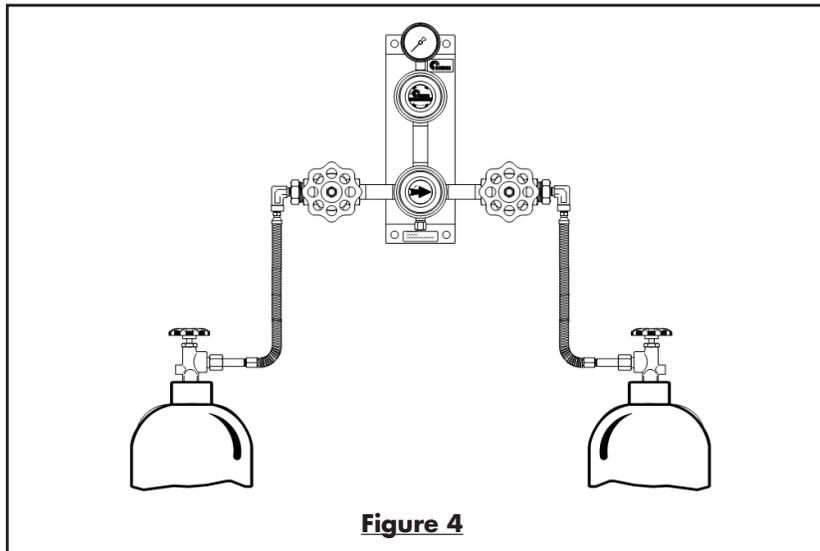

Figure 4
8. Secure the street elbow located on the master valve with a wrench while threading the taped male NPT end of the pigtail as illustrated in Figure 4.